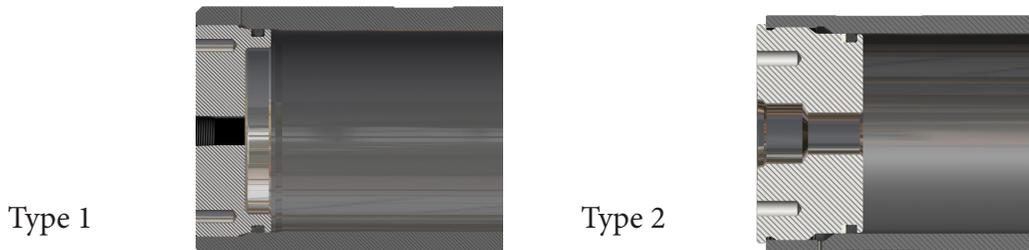

Figure 7 - Different End- Cap Arrangements
4. Install the seals onto the end-caps. The most common sealing arrangement for the end-caps is an o-ring with a back-up ring. The o-ring should always be positioned on the pressure side of the end-cap (Closest to the installed piston). And, the backup ring should always be positioned closest to the end-cap segment ring groove (See Figure 7 below).